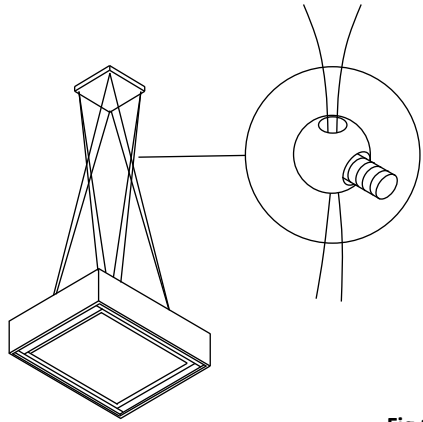

Fig 14
9. Turn alan key to tighten wires (Fig 14).